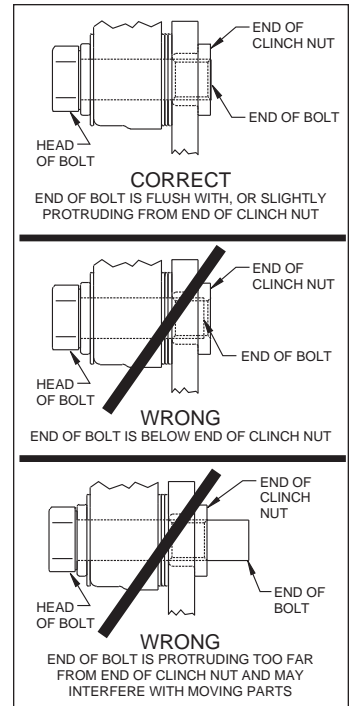

Figure 4. Clinch Nut Engagement Diagram
**CAUTION:** All mounting bolts must fully engage insert nuts, Figure 4. Be sure to check that all bolts are either flush or protruding through flanged side of insert nut after shimming. Rear hole refers to the part of the spindle that would be facing the back of the vehicle, front is facing the front of the vehicle.
- Adjust by adding or subtracting shims (2) between the bracket and the spindle. Always use the same amount of shims on each of the two mounting bolts.
- NOTE:** The end of each bolt must be flush with or slightly protruding from the head of the clinch nut, as shown in Figure 4. If necessary place spare shims (2) between washer (19) and caliper mounting ear to achieve the proper clinch nut engagement. Once the caliper alignment and clinch nut engagement is correct, remove the ProSpindle and steering arm bolts one at a time, apply red *Loctite*® 271 to the threads, and torque to 55 ft-lb. Remove the caliper mount bolts one at a time, apply red *Loctite*® 271 to the threads, and torque to 40 ft-lb.
- Install the disc brake pads (21) into the caliper (18), with the friction material facing the rotor (8), and secure inplace using cotter pin (22), Photo 10.